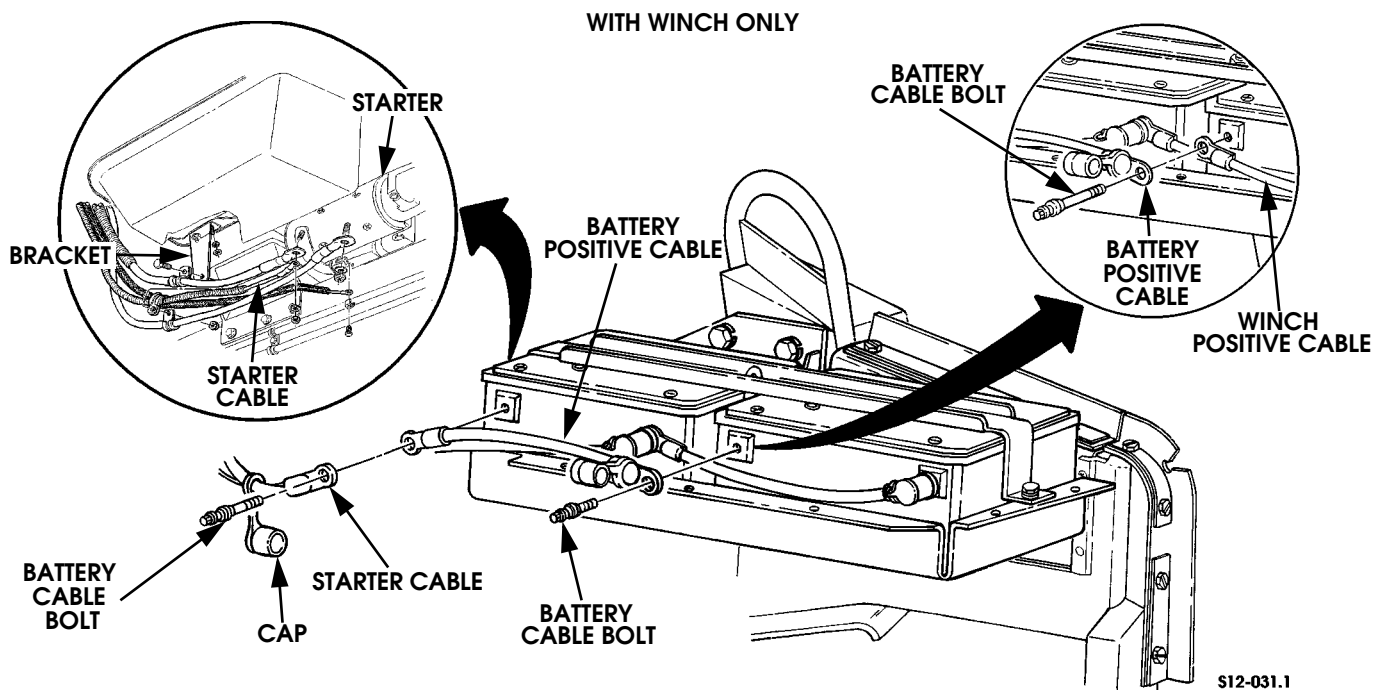

Figure 12-7: Battery Positive Cable Connections
2. Remove caps from battery positive cable(s) (Figure 12-7).
4. Connect winch cable to battery positive post (Figure 12-7).